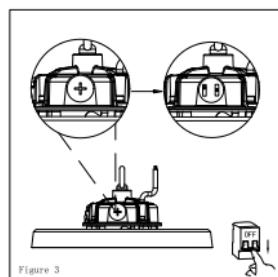

Figure 3
3. Open the sealing cover on top of the driver, turn off the power before adjusting the colour temperature and power, adjust the required colour temperature and power according to the prompts on the shell, in order to prevent water leakage, please tighten the sealing cover after adjustment. (fig.3)